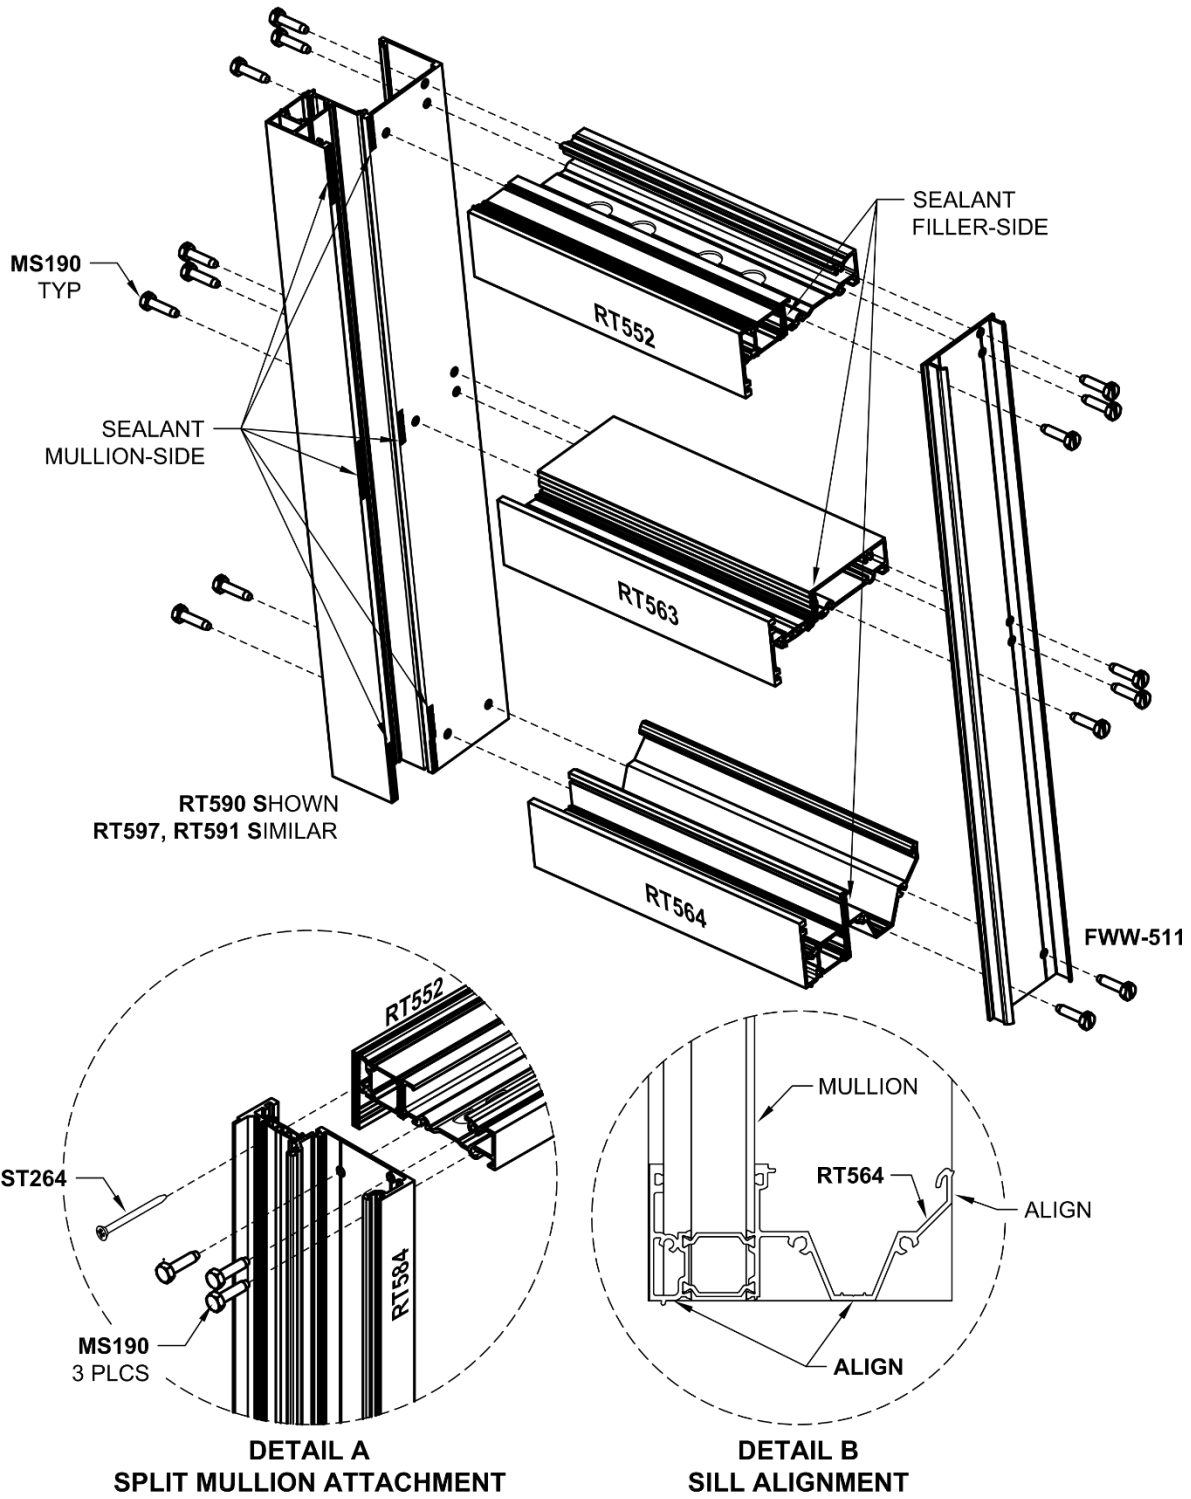

Figure 30: Panel Assembly
- 12.1.2 Apply Sealant to the end of the Head, Horizontal, and Sill that will attach to the Mullion or Jamb. See *Figure 27* and *Figure 30*.
- 12.1.5 To ensure a proper fit into the Sill Receptor, align Sill to Vertical at the interior edge and the bottom, as shown in *Figure 30, Detail B*.
- 12.1.6 Attach Horizontals to Verticals using **MS19042** fasteners, referencing *Figure 30*,
NOTE: *Captured Split Mullion requires **ST26442** fasteners at exterior half, as shown in Figure 30, Detail A. Corner Mullions require **ST280**, per Figure 10.*